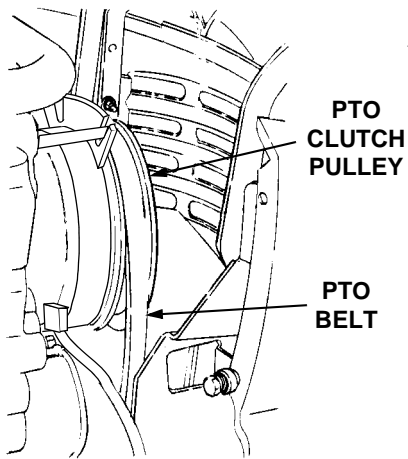

Figure 58
10. Open the tractor hood and install the forward end of the PTO belt onto the PTO clutch pulley on the front of the engine. Ensure that the narrow side of the PTO belt engages the groove of the pulley (Refer to Figure 58).